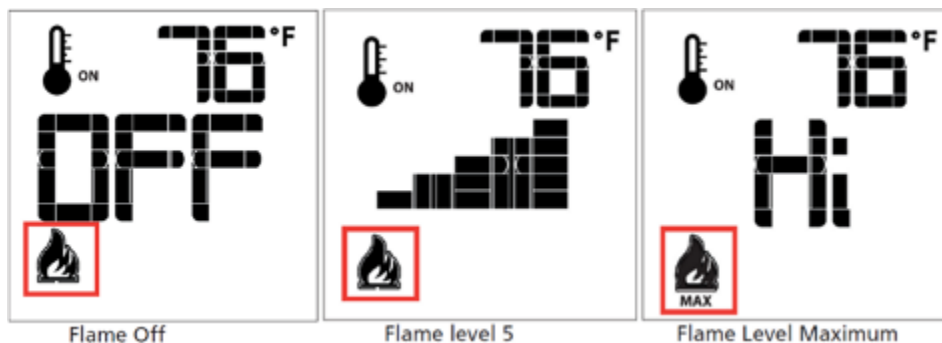

FIGURE 12
The system has six (6) flame levels. See (**Figure 12**) for an example. With the system on, and the flame level at the maximum in the appliance, pressing the Down Arrow Key once will reduce the flame height by one step until the flame is turned off. The Up-Arrow Key will increase the flame height each time it is pressed. If the Up Arrow Key is pressed while the system is on, but the flame is off, the flame will come on in the high position (**Figure 12**). A single “beep” will confirm reception of the command.